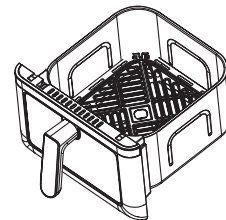

Fig. 3
3. Place the ingredients into the frying tray (Fig. 3).